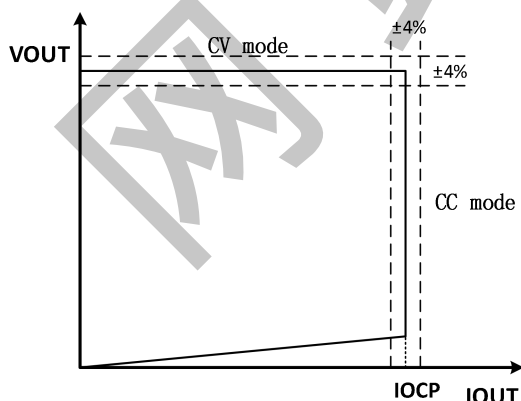

Fig.1. Typical CC/CV Curve
Proprietary Constant Voltage (CV) and Constant Current (CC) control is integrated as shown in the Fig.1. In CC control, the current and output power setting can be adjusted externally by the sense resistor  $R_{CS}$  at CS pin. In CV control, multi-mode operations are utilized to achieve high performance and high efficiency.